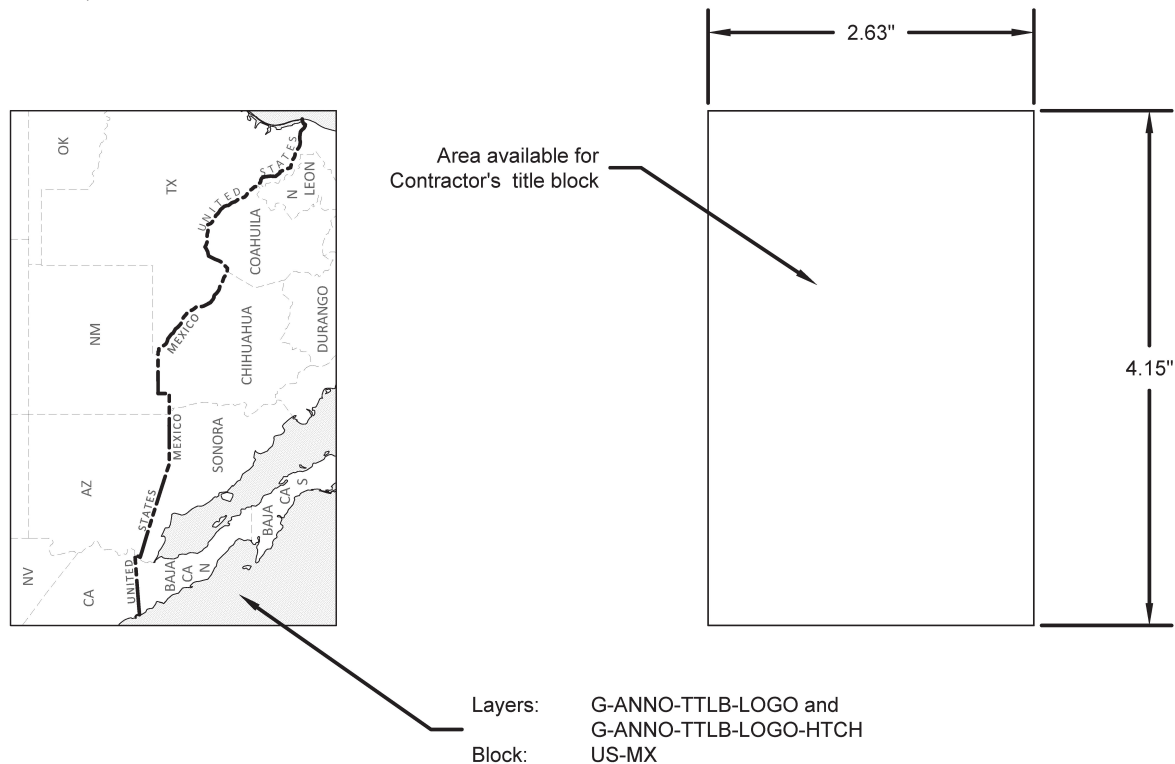

Figure 22-USIBWC Border: US Mexico Map or Contractor Logo Area
4.2. US-MEXICO MAP OR CONTRACTOR LOGO (FIGURE 22)